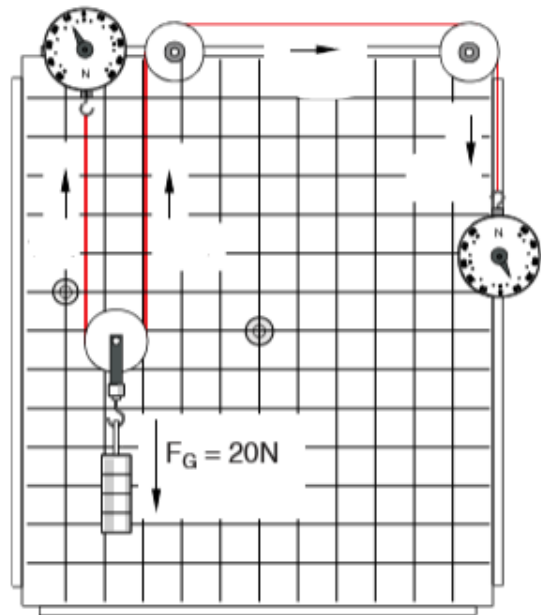

Figure 4: Introduction to pulleys
- 1) Set up the experimental board as shown in Figure 4.